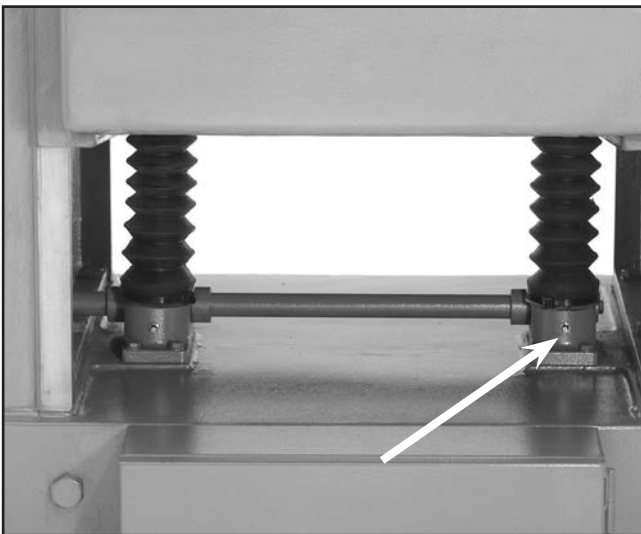

Figure 22. Table lifting gear grease fittings.
- 3. Table Lifting Gears** — Once a week for heavy use; once a month for moderate use. See **Figure 22** for locations.